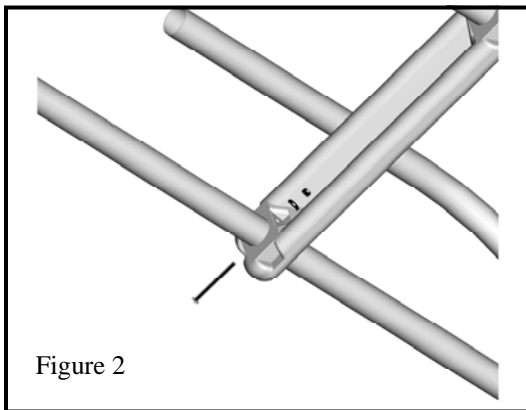

Figure 2
See figure 2
- Slide the second handrail thru the hole on the opposite side of the step. Secure with a nut and bolt. See figure 2